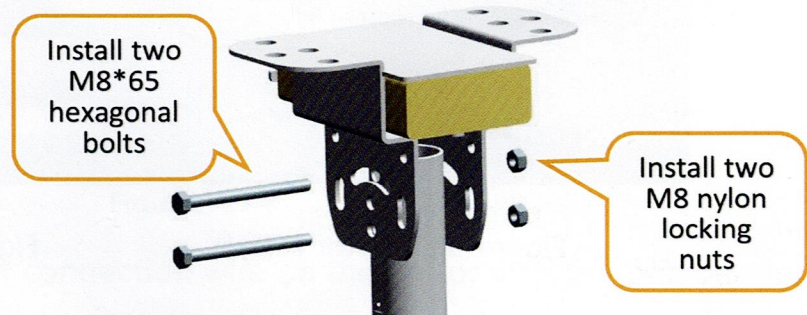

Figure. 3.3
③ Insert the upper end of the extension tube into the upper mount, align their installation holes. Then use two M8\*65 hexagonal bolts, flat washers, spring washers, and M8 nylon locking nuts to tighten the structure while keeping the extension tube perpendicular to the upper mount (see Figure 3.3)